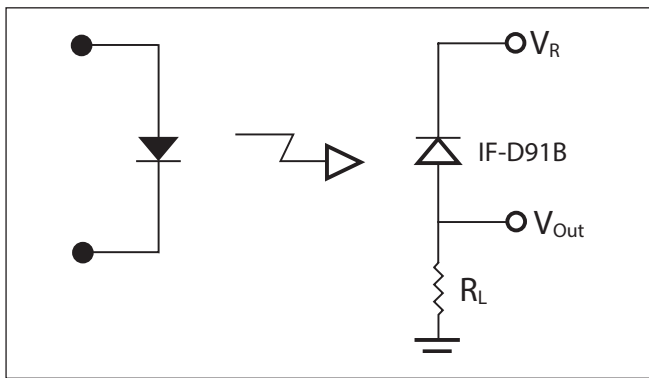

FIGURE 2. Circuit diagram for measuring rise and fall times.
3. We could change the circuit from the basic resistor (Figure 2) to the transimpedance amplifier (Figure 5).
The circuit shown in Figure 2 can be used for low frequency applications. The output is given by $V_{OUT} = P_{IN} \times R \times R_L$. Where P_{IN} is the power into the IF-D91B and R is the responsivity at the wavelength used. The bandwidth is limited by the IF-D91B capacitance, the circuit capacitance and R_L ,